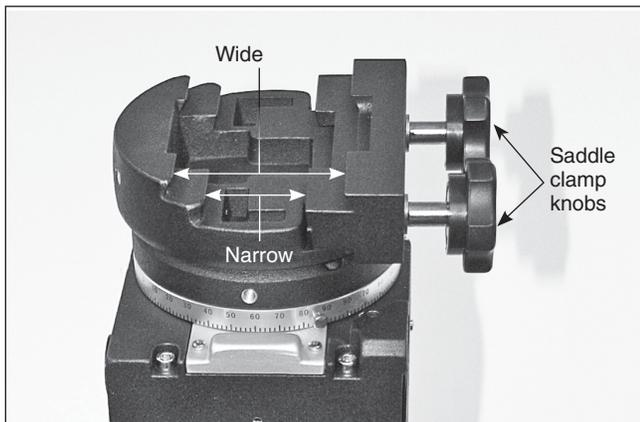

Figure 7. The dual-width saddle accommodates narrow or wide dovetail mounting bars or plates.
- Loosen the two clamp knobs on the dual-width saddle plate (Figure 7) until the width of one of the dovetail grooves is slightly wider than the width of the dovetail bar on your telescope.